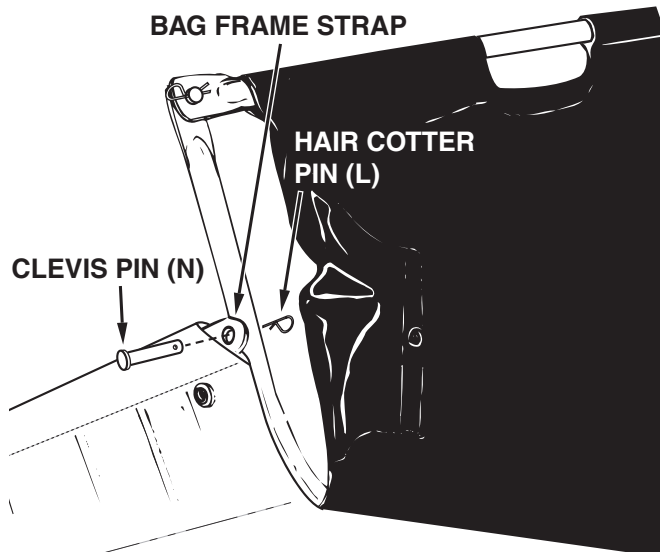

FIGURE 12
- Assemble the bag frame strap to the holes in the lower hopper tubes using two clevis pins (N) and hair cotter pins (L). See figure 12.